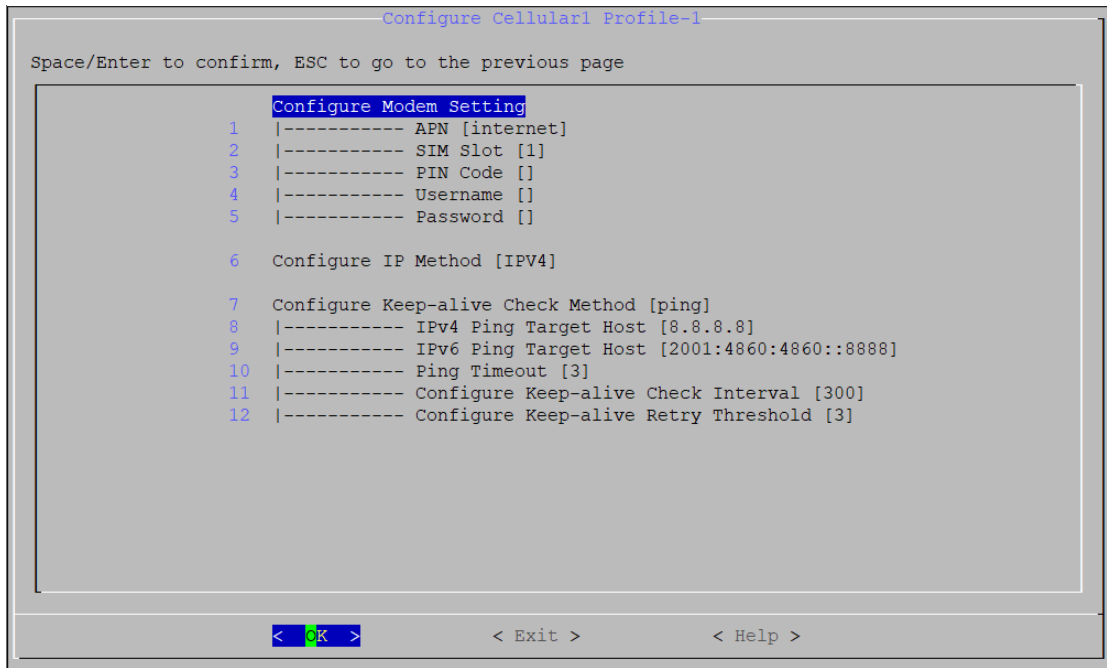

Figure 5.5 –Network profile setting (cellular interface as an example)
- Go to the interface configuration page of WiFi1 and Cellular1 (Figure 5.5 is an example of Cellular)